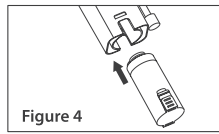

Figure 4
• Remove the filter package and the paperboard on two sides, align the buckles of the filter to notches of the water pumping unit, and insert a new filter. After the new filter is installed in place, the bottom of the filter is aligned with that of the water pumping unit, and there is a slight mechanical sound. (Figure 4)